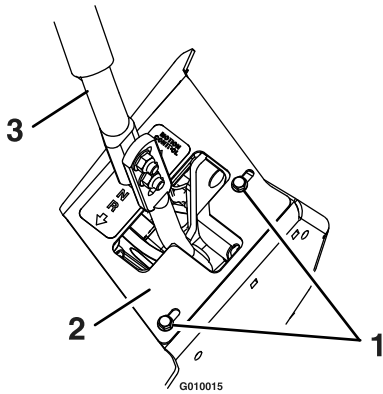

Figure 61
1. Loosen the screws on a cover plate (see Figure 61).